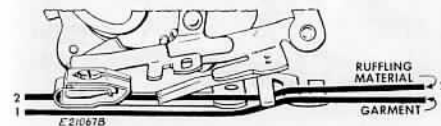

Fig. 66. Correct Positions for Materials
1. Insert material to be ruffled between two blue blades **Line 2**, Fig. 66.
2. Place material to which ruffle is to be attached under separator blade **Line 1**, Fig. 66.